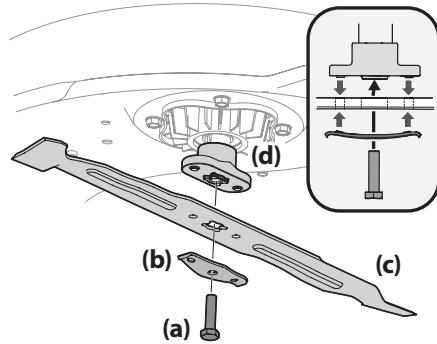

Figure 24
3. Remove the hex screw (a) and the blade bell support (b) which holds the blade (c) and the blade adapter (d) to the deck motor. See Figure 24.
4. Remove blade (c) and adapter (d) from the deck motor spindle. See Figure 24.